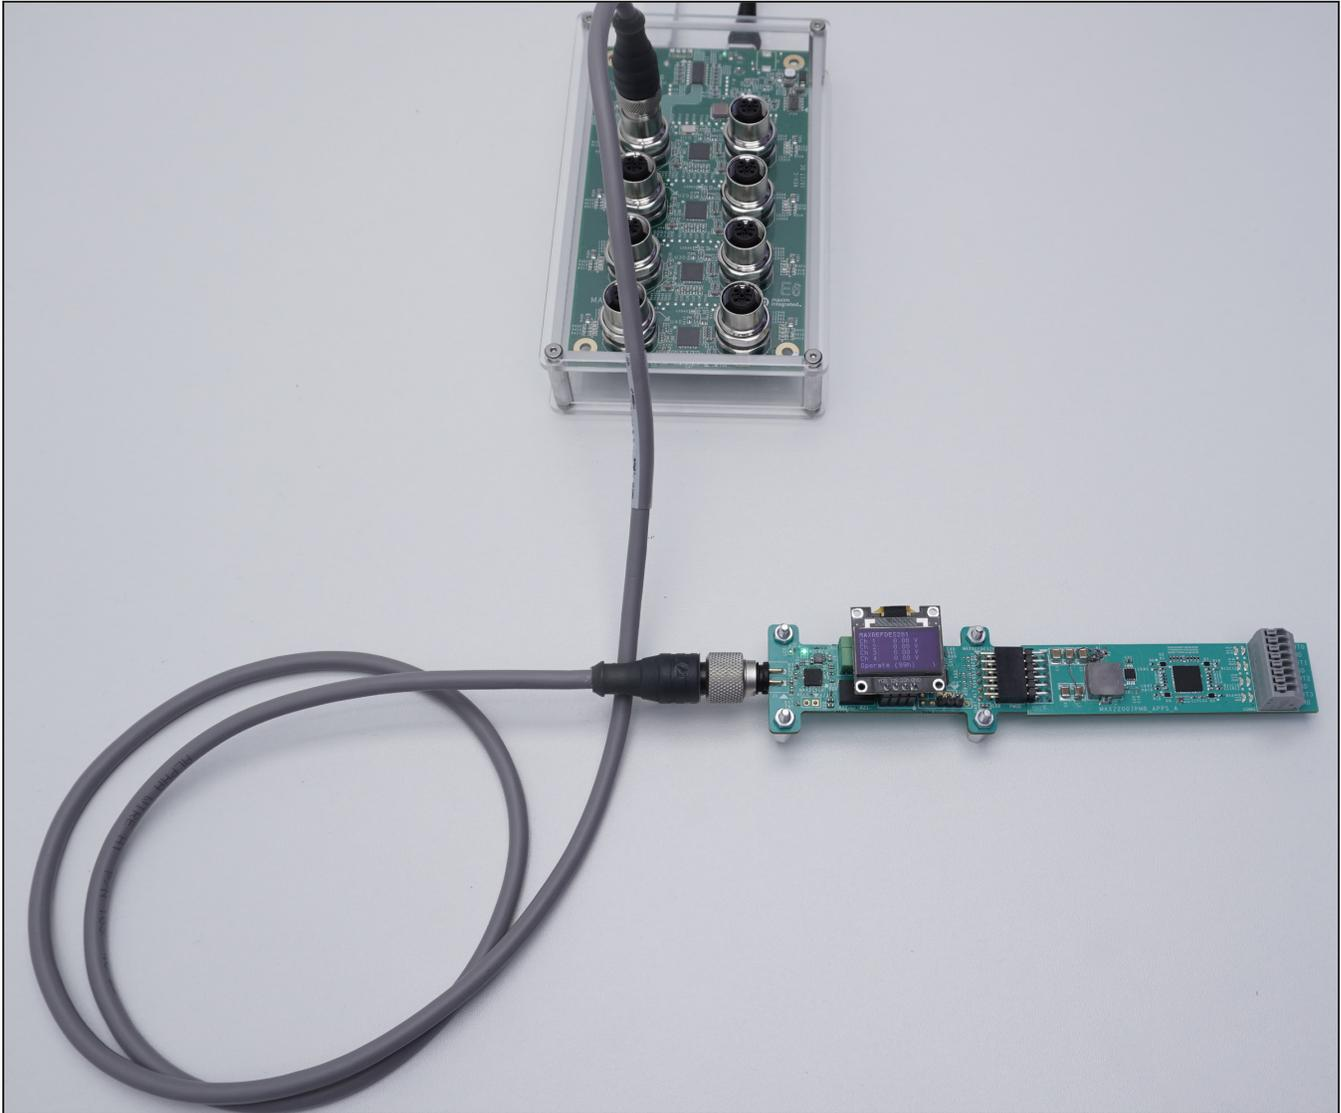

Figure 3. MAXREFDES145# + MAXREFDES281# + MAX22007PMB#.
- 1) Connect the female end of the IO-Link cable to the MAXREFDES281# (see Figure 3).